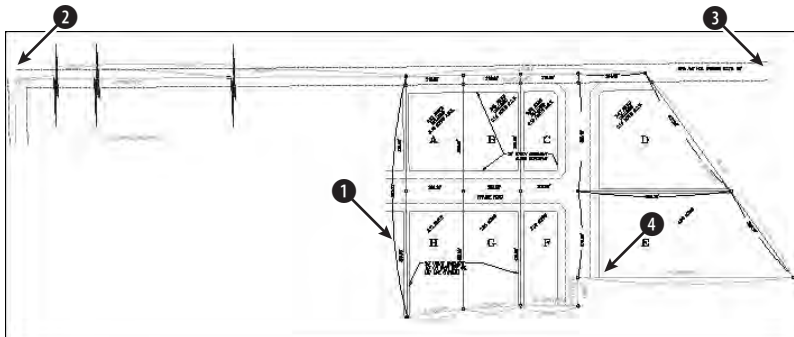

Figure 12-5: A civil engineering drawing of several plots of land
1. Open *ab12-a.dwg* from the CD-ROM if it is not already open from the previous exercise. This is a civil engineering drawing showing several plots of land, as shown in Figure 12-5. OSNAP should be on. Set a running object snap for endpoint.
2. Choose Tools ⇨ Inquiry ⇨ List. At the `Select objects:` prompt, pick ❶ in Figure 12-5. Press Enter to end object selection. The result is shown in Figure 12-6. Note the surveyor's units.
3. Choose Tools ⇨ Inquiry ⇨ Distance. At the `Specify first point:` prompt, choose the endpoint at ❷ in Figure 12-5, using the Endpoint running object snap. At the `Specify second point:` prompt, choose the endpoint at ❸. Here's the result:
4. Choose Tools ⇨ Inquiry ⇨ ID Point. At the `Specify point:` prompt, pick the endpoint at ❹ in Figure 12-5. Here is the result: